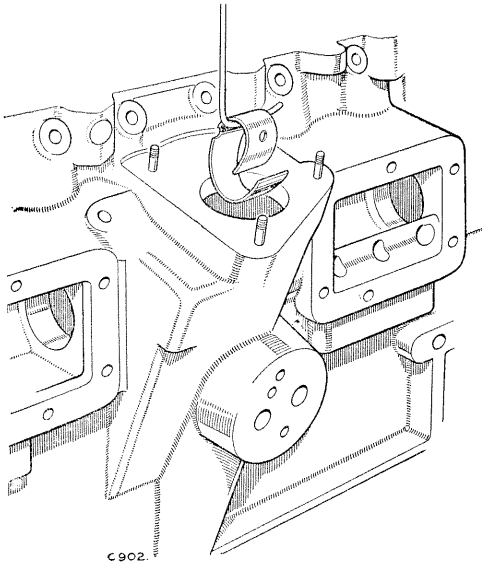

Fig. A-65—Inner camshaft bearing removal
3. The front intermediate bearing is removed by drifting it into the fuel injection pump drive chamber, using the same tool, but it must be collapsed before withdrawing from the drive aperture as illustrated in Fig. A-65.